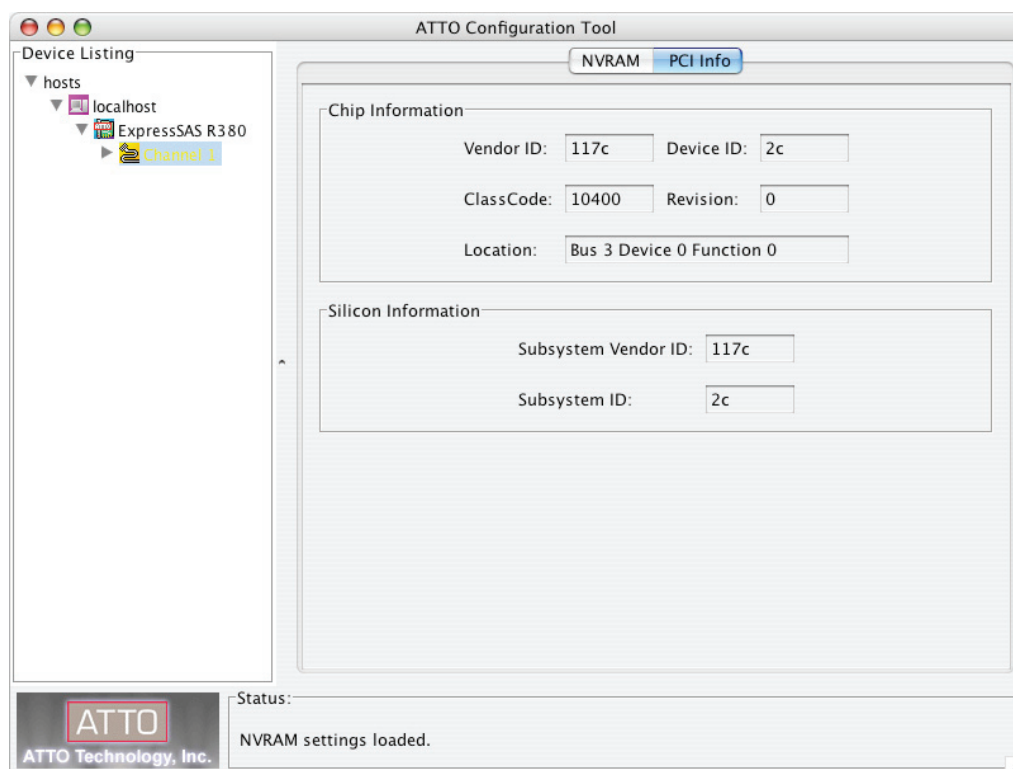

Figure 7
- The Sonnet RAID controller's information is displayed in the **PCI Info** tab. See **Figure 7** on page 6.